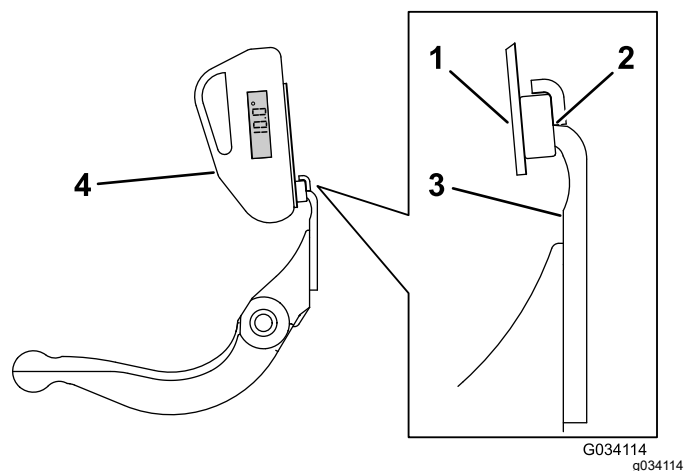

Figure 24
3. Place the angle-indicator mount on the edge of the bedknife so that the edge of the magnet mates with the edge of the bedknife (Figure 24).
4. Place the angle indicator on the mount as shown in Figure 24.